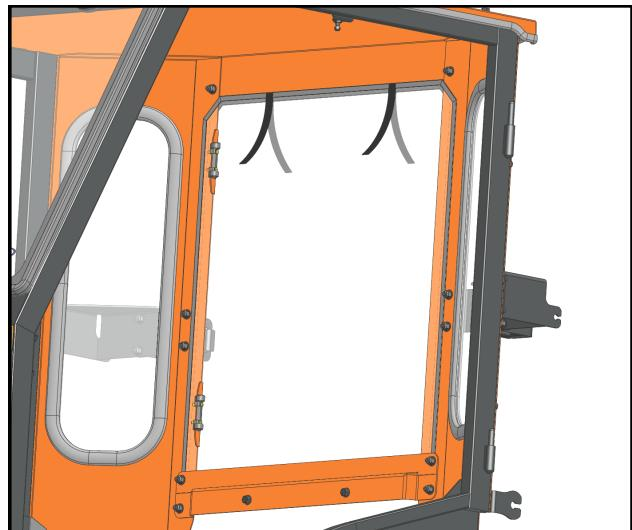

Fig. 9.4 (Upper Rear Curtain)
- 9.4 Pre-install the supplied Velcro hook to the sewn-in Velcro loop on the upper three sides of the upper rear curtain. Leave the release tape on until the filler is in place. See fig. 9.4.